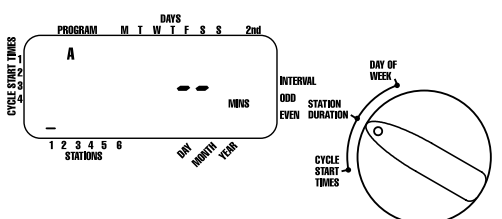

FIGURE 5: Station Duration for Program A
- Turn the rotary dial to **STATION DURATION** position in either the A or B program. The display will show which program you have selected with an “A” or “B” and the -- : -- cursor blinking at station “1” [See Figure 5].